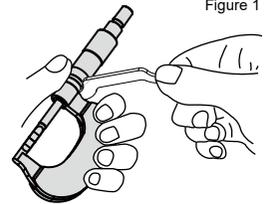

Figure 1
- If the reference point difference is ±0.01 mm or less (Figures 1 and 2) Insert the included key wrench into the hole on the rear of the reference line on the sleeve, and then rotate the sleeve until the reference line is aligned with the zero graduation line on the thimble.